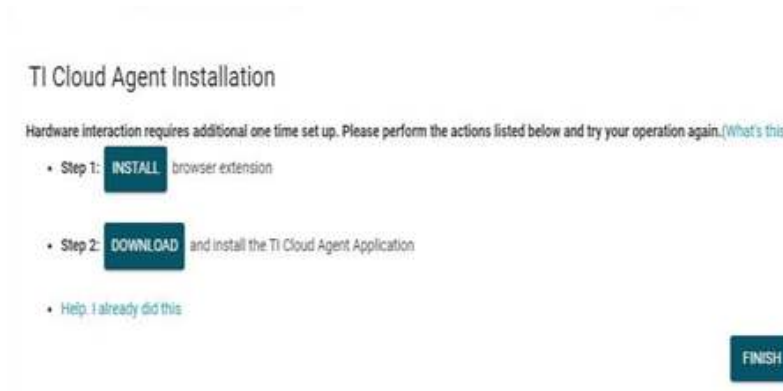

Figure 5. Browser Extension and TI Cloud Agent Installation
3. First-time users may be prompted to download and install the browser extension for Firefox™ or Chrome™ and the TI Cloud Agent Application as Figure 5 shows. Do so if need be, this is a one time download.